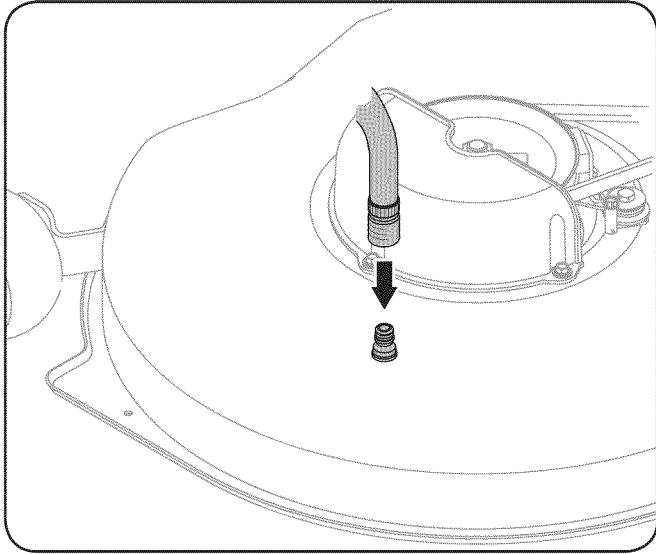

Figure 15
4. Attach the hose coupler to the water port on the deck's surface. See Figure 15.